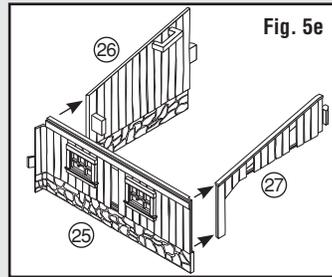

Fig. 5e
- Glue Shed Back Wall (26) and Shed Front Wall (27) to Shed Side Wall (25) (Fig. 5e). Make sure walls are aligned and square.